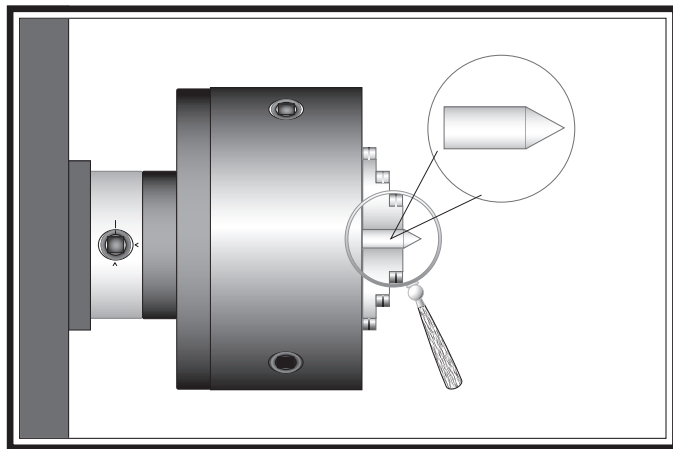

Figure 46. Turning a dead center.
3. Use the other piece of round stock to make a dead center, and turn it to a 60° point, as illustrated in **Figure 46**.